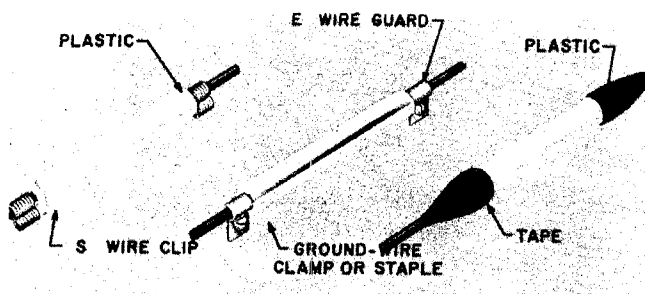

Fig. 3 – Securing Plastic Tubes or E Wire Guard
4. Use clamps or staples as shown in Fig. 3 if support for tube is needed.